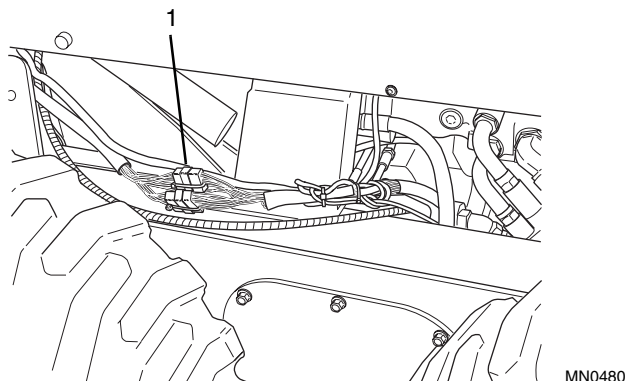

Figure 10-95 Wiring Harness Connectors
26. Connect three wiring harness connectors (Fig. 10-95, 1) attaching the Operator's Protective Structure Wiring Harness and Engine/Chassis Wiring Harness.